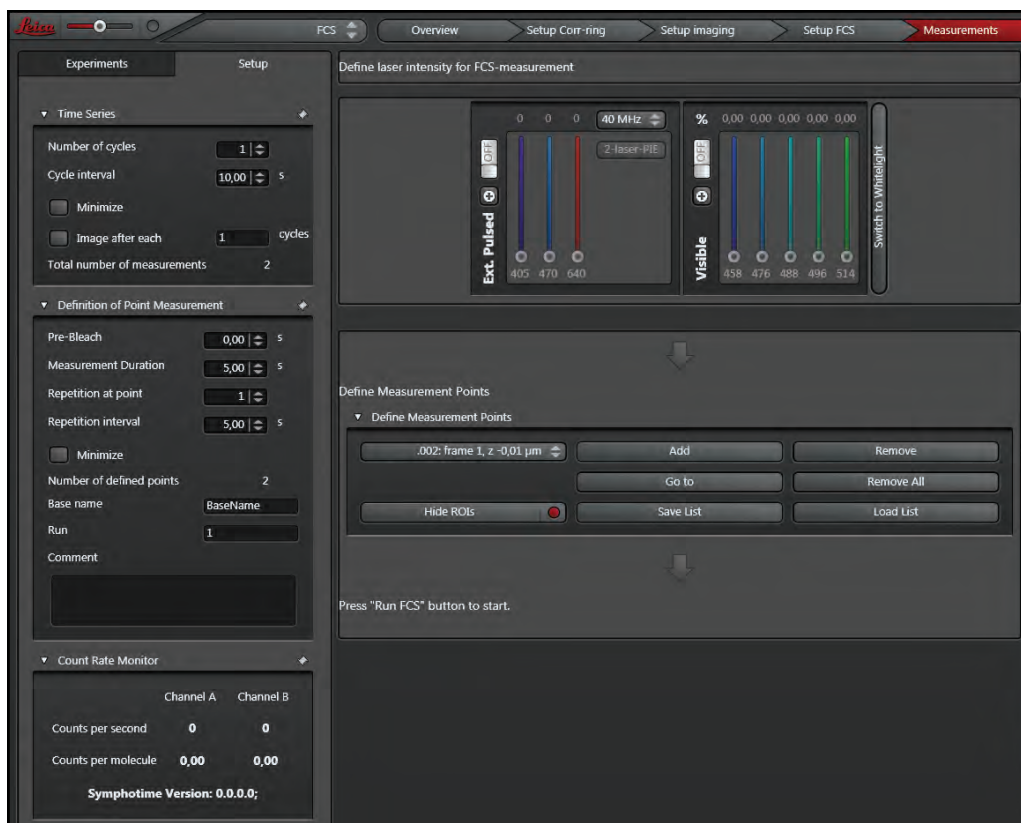

Figure 179: Overview of the Measurements step in the FCS Wizard
3. Move to the **Measurements** step in the FCS Wizard. If necessary, you can fine-tune the laser intensity here (**Figure 179**).
6. Click **Add** (**Figure 179**).
11. Then click **Add (Figure 179)**.
12. After this, a position list is created that can be saved by selecting **Save list** and called up at a later time (**Figure 179**). Individual points can be deleted from the list with **Remove**, and the entire list can be deleted with **Remove all (Figure 179)**.
13. Enter a measurement time in the LAS AF software, that is, the time required for a single measurement (**Figure 179**).
5. In the z image stack, go to the top z plane that is of interest to you. Click on the desired xy position and then on **Add** in **Beam Path Settings (Figure 179)**. Go to the plane below; do not change the xy position, but click **Add**. Then go to the plane below that, etc. Continue until you reach the lowest plane that is of interest to you.
The measurement series is started by clicking **Run FCS** image acquisition button. It stops automatically after all measurements are taken. A user-defined stop is possible by clicking **Stop FCS (Figure 179)**.
In the count rate monitor (**Figure 179**), the current count rate (in cps – counts per second) of each channel as well as the counts per molecule (in cpm – counts per second per molecule) are displayed during the individual measurements.